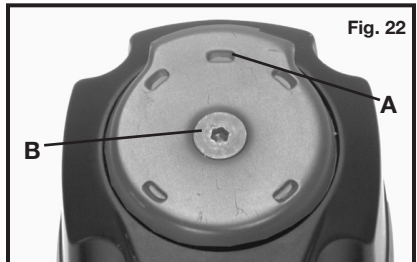

Fig. 22
5. Adjust directional exhaust deflector (A) Fig. 22, so that the exhaust air blast will be directed away from the operator: loosen deflector retaining screw (B) Fig. 22, rotate deflector to desired position for the current application and tighten retaining screw.